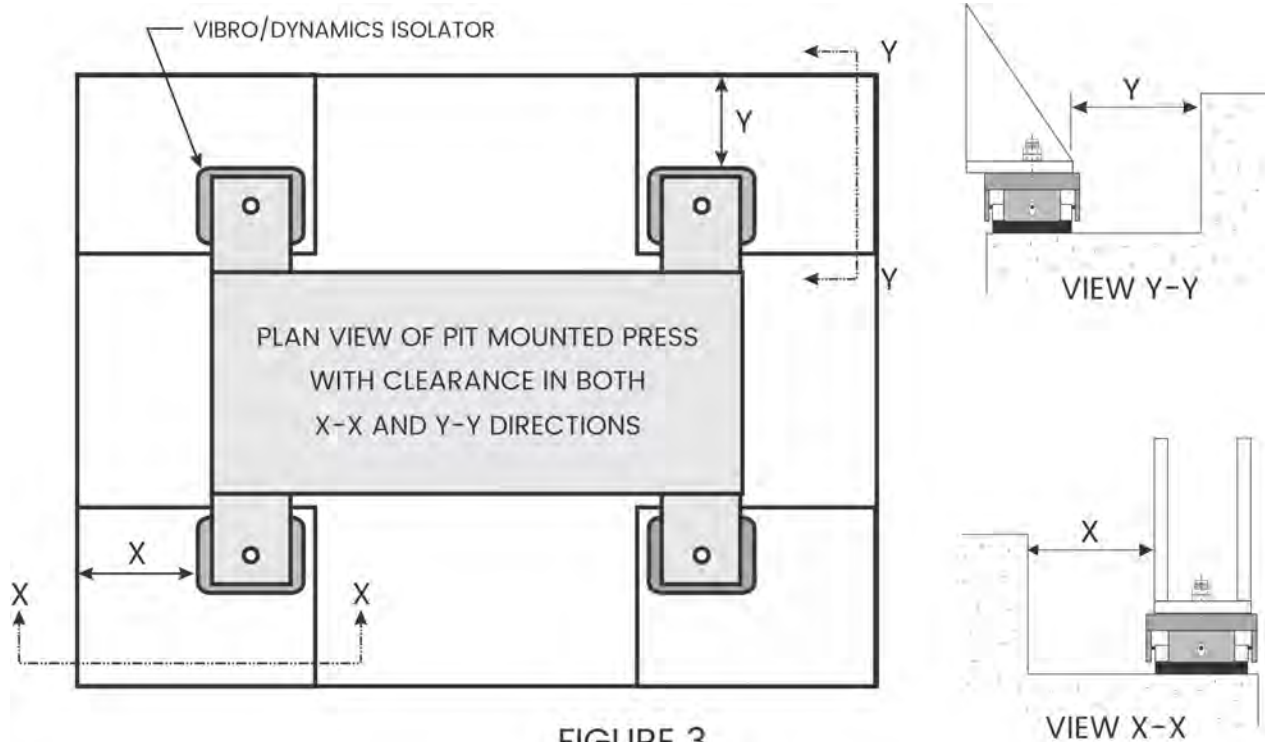

FIGURE 3
6. Clearance should be provided in either the X or Y direction to allow for the installation and removal of the isolator and access to make leveling adjustments to the isolator. See Figure 3 and Table 1. *Note: It may be possible to remove the isolator by moving it toward the center of the press and then into a pit but providing clearance around the isolator is the absolute preferred method.*